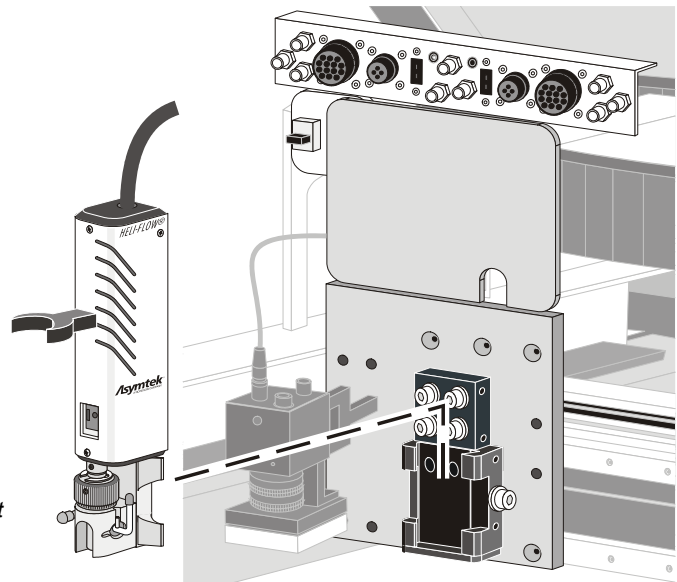

Figure 3-7 Mounting the Valve (M-2000 shown)
4. Slide the pump into the valve bracket (Figure 3-7).